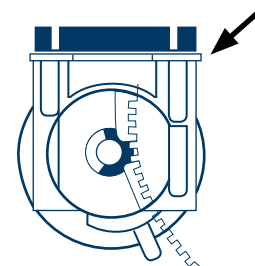

Figure 2
- For greater clearance, insert Shim(s) only at the inboard mounting hole (See Figure 2).